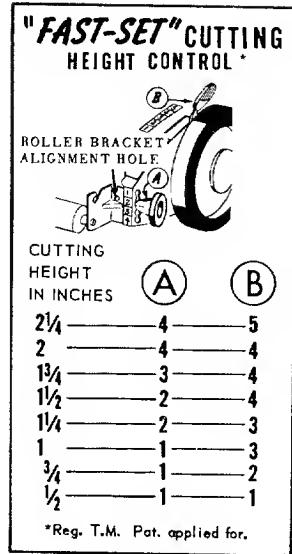

FIG. 3 A
1. Consult the chart located on underside of handle cover, the roller adjusting knobs (A) and wheel adjusting levers (B) must be in positions shown for desired cutting height. EXAMPLE: for 1 1/2" cutting height roller knob must be in No. 2 position, and wheel lever must be in No. 4 position. (Fig. 3 and Fig. 3A)